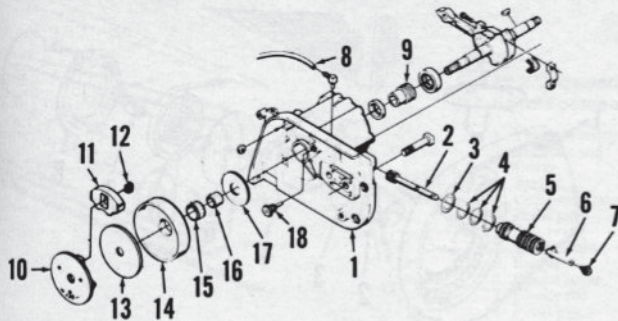

Fig. HL259—Exploded view of clutch and oil pump assemblies.
CLUTCH. Models are equipped either with the three shoe centrifugal clutch shown in Fig. HL259 or a 1-piece "S" configuration clutch similar to that
AUTOMATIC CHAIN OIL PUMP. All models are equipped with the plunger type pump shown in Fig. HL259. The pump is driven by a worm (9) on the engine crankshaft. Oil output is adjusted by turning adjusting lever shown in Fig. HL259. Turning adjusting lever counterclockwise will increase oil output.
To reassemble pump, lubricate and install pump plunger (2—Fig. HL259) in pump body (5). Lubricate "O" rings and align cam groove in plunger with slot in pump body. Carefully install pump assembly in housing to prevent plunger from moving out of alignment with pump body slot. Check pump by inserting a suitable tool through cam screw hole to engage cam slot in plunger. Pressure should be felt when plunger is moved towards end of pump. Screw cam screw (P—Fig. HL262) into housing being sure pin in cam screw properly engages slot in pump body (5—Fig. HL259) and cam groove in plunger (2). Do not tighten cam screw
Fig. HL262—Oil line fitting (O) must be pointing towards 8 o'clock position and oil line routed as shown. Cam screw (P) must be installed carefully to insure proper meshing with cam in plunger (2—Fig. HL259).